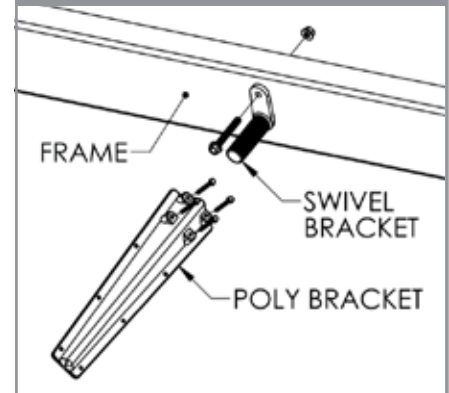

FIGURE 8
- A. Place four 5/16" x 3" bolts through the (10001464) poly bracket and the (10001485) backing block to clamp the (10001472/10001474) swivel. (See Figure 8)